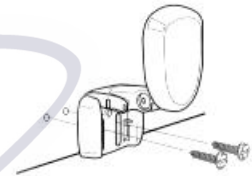

Figure 8
2. Align the transducer assembly with the drilled holes in the transom (Figure 8).